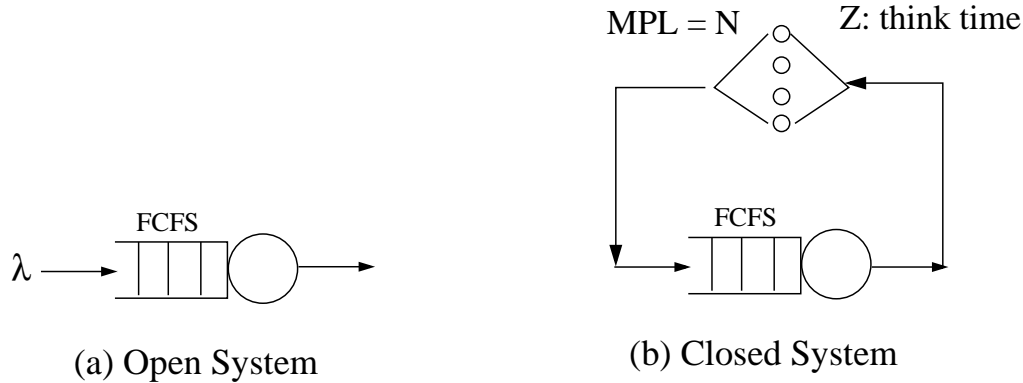

Figure 1: For problem 2.
2. **[Comparing Open vs. Closed Systems: The effect of MPL]** In this problem you will primarily use simulation, however a few pieces will be doable via analysis (as marked). Your system throughout will be the simple single-server FCFS queue shown in Figure 1. Throughout, the job size distribution will be $S \sim \text{BoundedPareto}(k = 1333.33, p = 5 \cdot 10^8, \alpha = 1.8)$. Also throughout, the think time will be $Z \sim \text{Exp}(\lambda)$, where you will be determining λ .
- i. For the Open System, in Figure 1(a), the arrival process is a Poisson Process with rate λ . Use analysis to create a table for the value of λ which corresponds to loads $\rho = 0.2, 0.3, 0.4, 0.5, 0.6, 0.7, 0.8, 0.9$. Now create a plot where the y -axis is the mean inter-arrival time and the x -axis is the load ρ .
- ii. For the Closed System, in Figure 1(b), the load will be determined by the Think Time $Z \sim \text{Exp}(\lambda)$ and the MPL, N .